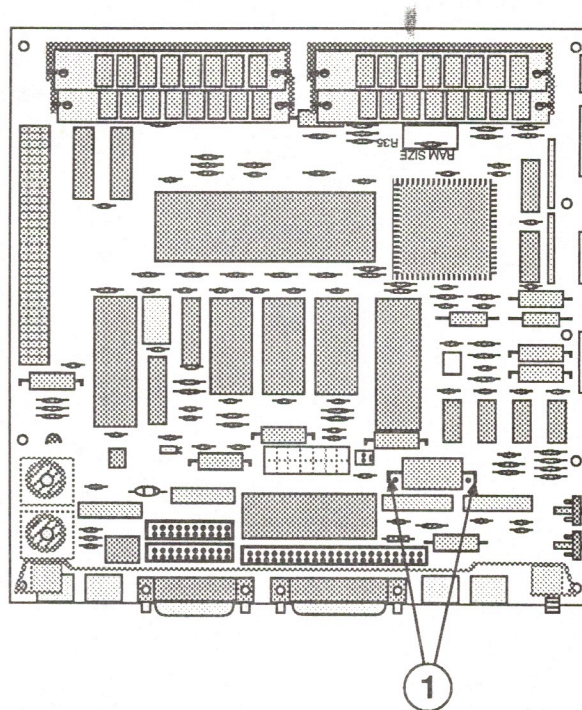

FIGURE 32
5. Using wire clippers, cut the leads (Figure 32, #1) at both ends of the battery to free it from the main logic board. Cut the leads as close to the logic board as you can without touching the board with the clippers.